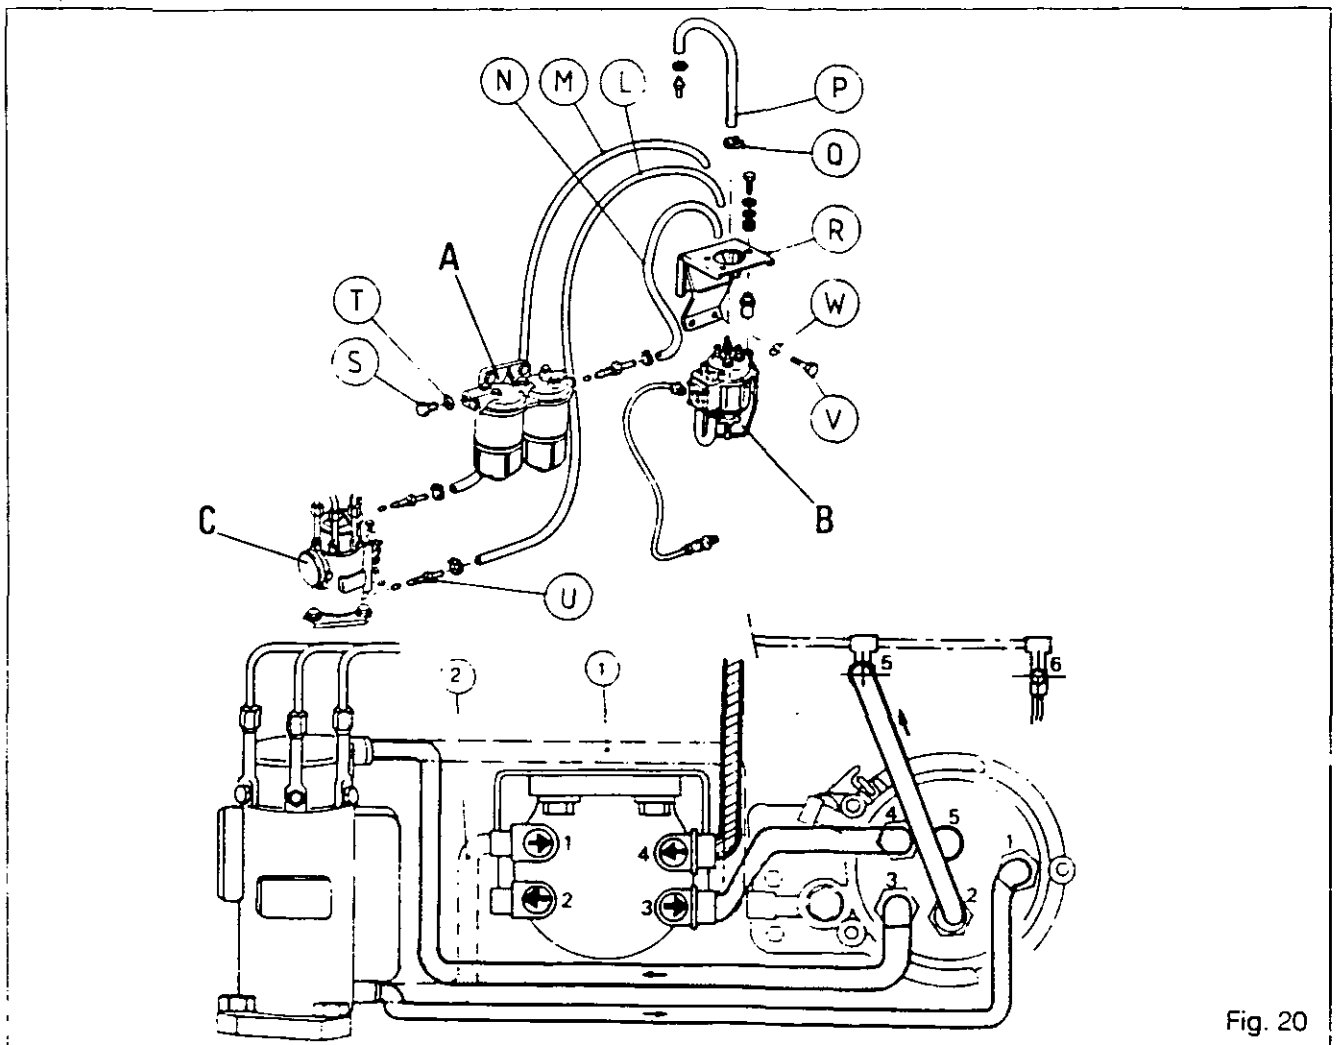

Fig. 20
a) Location (see Fig. 20 - 21)
c) First, position hoses on the flowmeter and tighten them with clamps (Q).
d) Then position the flowmeter on its bracket (R) (as shown on Fig. 20).